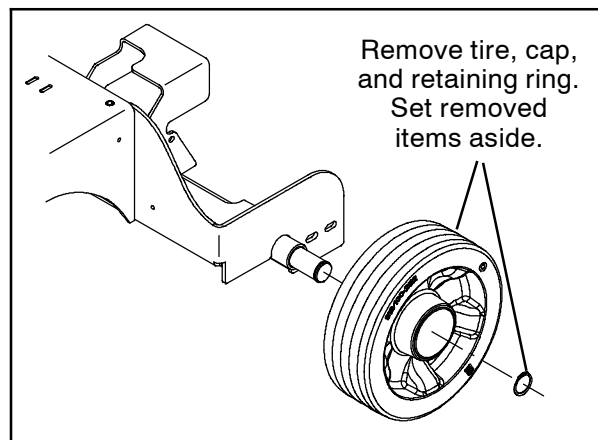

FIG. 1
6. Remove both rear tires from the machine. Set both tires, caps, and retaining rings aside. (Fig. 1)